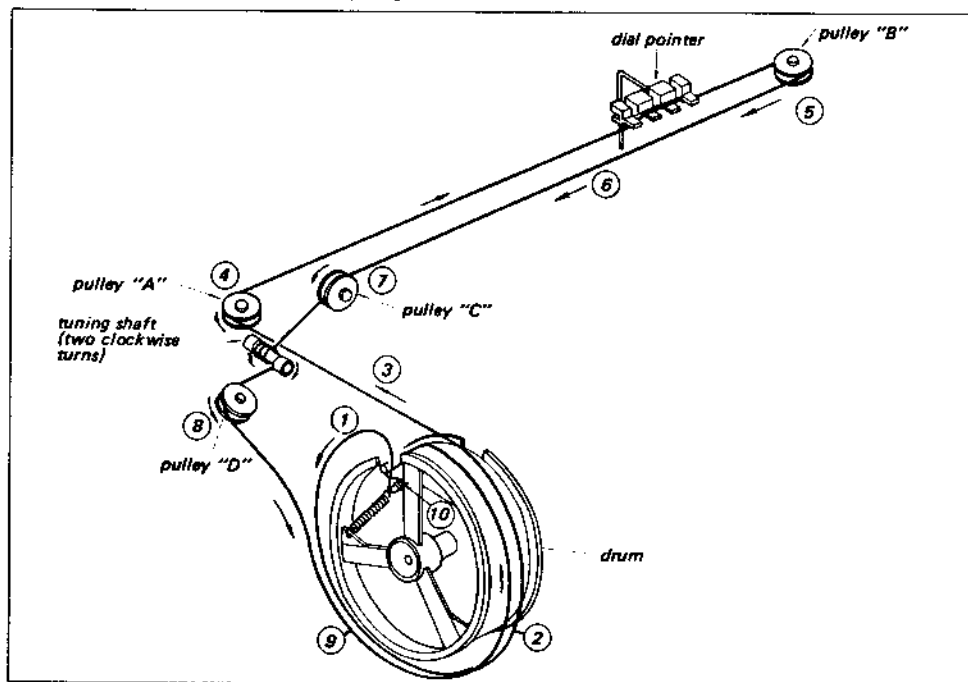
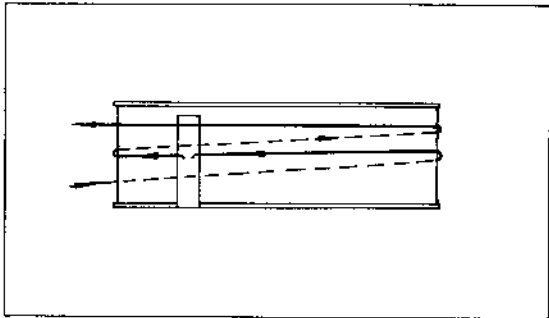

Fig. 2-5. Dial cord stringing
Fig. 2-7. Wrapping the dial cord
While referring to Fig. 2-5 proceed as follows:
in the inner side groove. See Fig. 2-7.
4. Run the cord over pulley "D" and then wrap half turn around the drum from outer groove to inner groove as shown in Fig. 2-5 and Fig. 2-7.